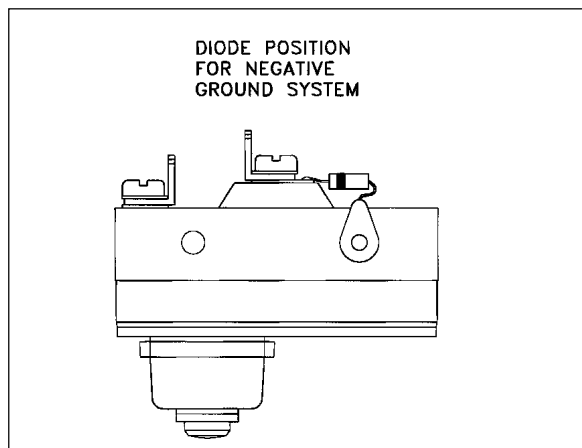

Figure 4-3
1. Diode on fuel pump switch is wired for a negative ground electrical system. If vehicle uses a positive ground system, the diode must be removed and reversed. See Figure 4-3.